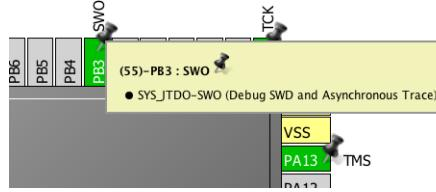

Figure 5: Contextual tool-tips help understanding signal usage
A contextual tool-tip is showed moving the mouse pointer over the MCU pins (see **Figure 5**). For example, contextual tool-tip for pin PB3 says to us that the signal is mapped to *Serial Wire Debug* (SWD) interface and it acts as *Serial Wire Output* (SWO) pin. Moreover, the pin number (55) is also shown.